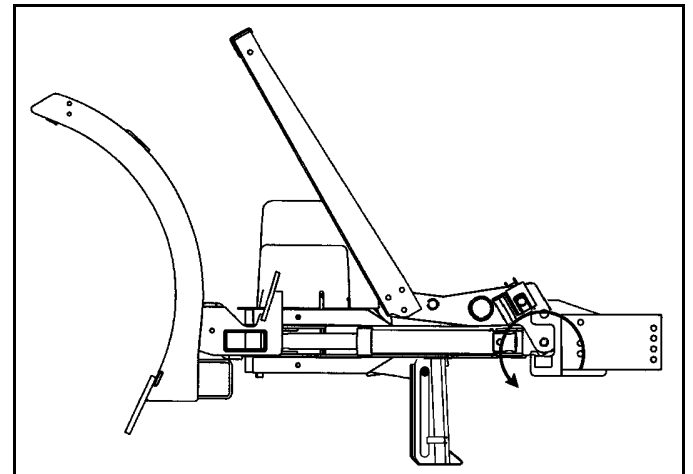

Figure 1-30
9. Rotate jack stand down and raise A-frame by pressing the up button. (See Figure 1-30).